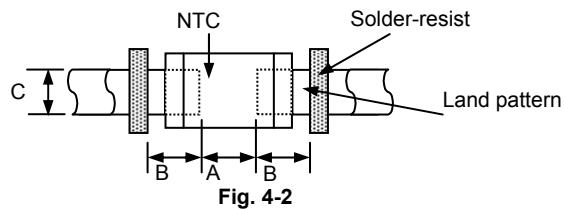

Fig. 4-2
- 2) Recommended PCB pattern for reflow soldering: See **Fig.4-2** and **Table 4-1**.